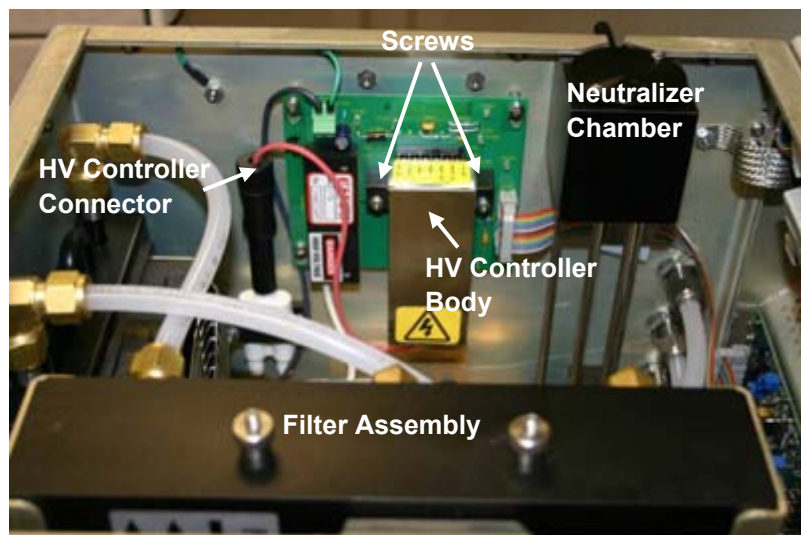

Figure 6-11
The Model 3080 Electrostatic Classifier has a negative polarity high-voltage (HV) controller by default for the Long or Nano DMA to select positively-charged particles. Researchers that are interested in negatively charged particles can order an optional positive HV controller (P/N 1030354) from TSI to size classify negatively charged particles. The location of the HV controller in the Classifier is shown in Figure 6-11 and the optional positive HV controller is shown in Figure 6-12.
- 2.** Remove the cabinet cover of the 3080 by loosening the seven (7) screws securing the cover (the screws do *not* have to be removed)
- 3.** Disconnect the long black HV controller connector by pulling it up and then loosen the two screws on the sides of the HV controller body from the mounting bracket as shown in Figure 6-11 and Figure 6-13.